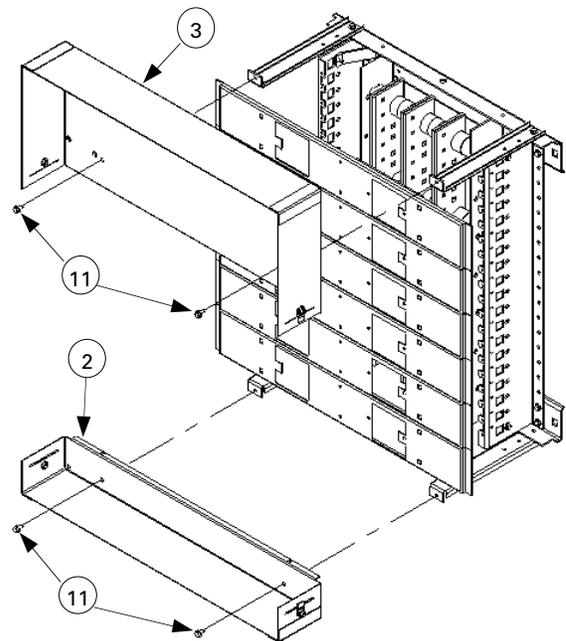

Figure 6. Installing the dead front load and line ends to the mounting posts. Note that a top-feed installation is shown; reverse [2] and [3] for bottom feed.
- Fasten the dead front load end [2] to the mounting posts located opposite the line side, using the  $\frac{1}{4}$ -20 x  $\frac{1}{2}$ -in. hex-head screws [11] provided, as illustrated in Figure 6. Repeat the process for the dead front line end [3] onto the mounting posts located on the line side of the panel. Tighten the screws to 50–60 in.-lbs.